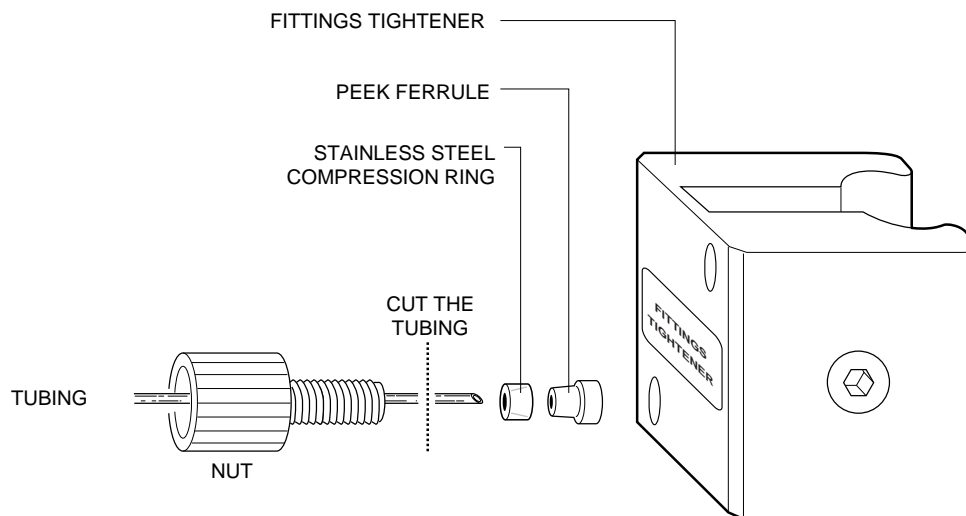

Figure 4-2. Making 1/4-28 flat bottom fittings
2. Slide the nut, stainless steel compression ring, and the ferrule, in that order, onto the tubing as shown in figure 4-2. The flattened end of the compression ring should face towards the nut with the tapered end facing the tapered end of the brown ferrule.
4. Plumbing from the Transducer to the Mixer (Figures 4-2 and 4-3).